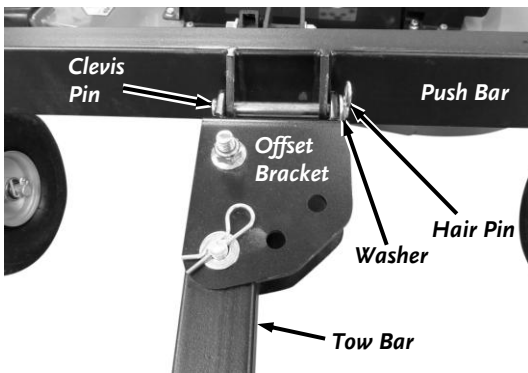

Figure 35
1. Support the Tow Bar as you remove the Hair Pin, Washer and Clevis Pin that secures the Offset Bracket to the Push Bar (**Figure 35**).